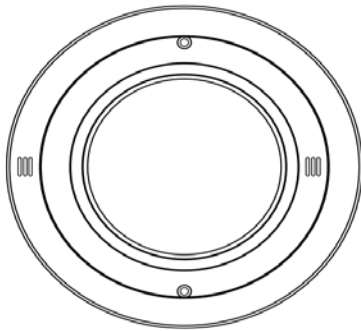

Figure 8
1. The screw holes on the light fixture should be lined up with 12 o'clock position. (See Figure 8).